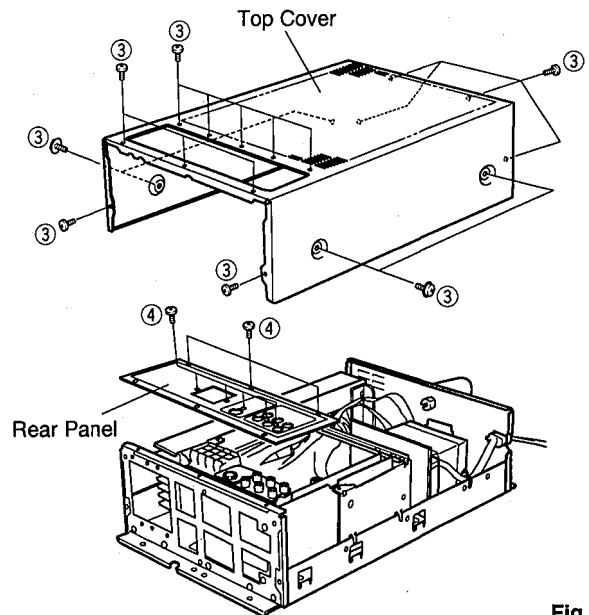

Fig. 2
- a. Remove 18 screws (③) and then remove the Top Cover in Fig. 2.
- b. Remove 9 screws (④) and then remove the Rear Panel in Fig. 2.